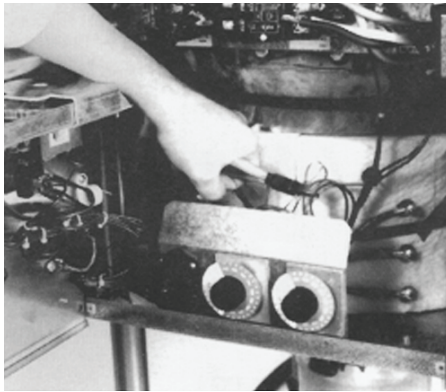

Figure 4
- A. Clip the thermostat capillary tube(s) and wires leading from the thermostat/fuse panel to relay #1 (see figure 4).